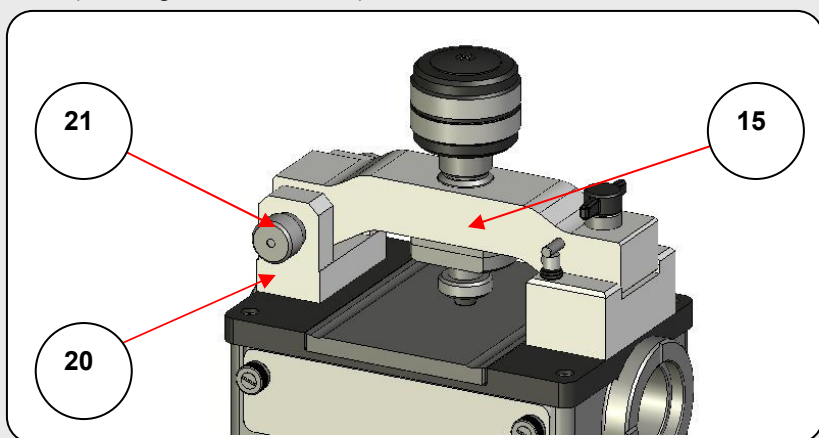

Figure 17. Silver Gate™ Hinge Block (20) and Thumb Nut (21) which is unscrewed for removal of Bridge assembly (15)
If the Silver Gate™ accessory has a bridge and clamp anvil assembly (15) fitted, a liquid sample can be analyzed with the bridge in the open (unlocked) position past the stay up catch device (19). Alternatively, the bridge and clamp anvil assembly (15) can be removed completely from the bridge hinge support block (20) by unscrewing a thumb nut (21) for the hinge pin and sliding the hinge pin out of the bridge and support block. (See Figures 17 and 18.)